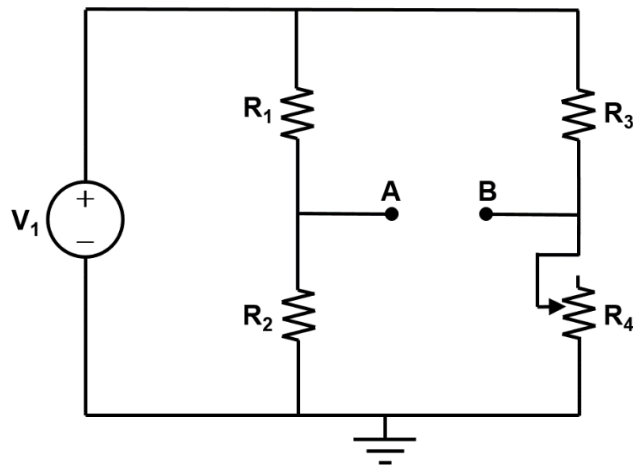
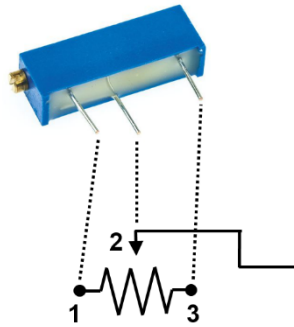

Figure 1: A Wheatstone bridge circuit.
Figure 2: Multi-turn trimmer (variable resistor) pin layout.
- Figure 1 below shows a bridge network circuit (also known as **Wheatstone bridge**). It is usually used to measure small changes in a resistance, e.g., due to temperature changes, or due to light intensity changes. The Wheatstone bridge can be set up such that $V_{AB} = 0$ when the sensor's resistance R_4 is at its **reference value**. Then, any change in R_4 , say ΔR , would result in a non-zero V_{AB} . **By measuring V_{AB} , we can calculate ΔR .**
2. Using the breadboard, construct the circuit shown in Figure 1, where V_1 is the voltage supply from the USB breakout cable, and $R_1 = R_2 = R_3 = R_4 = 500\ \Omega$. Use the multi-turn variable resistors for all these four resistances by trimming them carefully to 500 Ω with the help of the digital multimeter serving as an Ohmmeter. Figure 2 shows the pin layout of the multi-turn variable resistor. Just like the previous studio's variable resistor, you only need to connect the middle pin (#2) and one other pin (either pin #1 or pin #3). However, **do not bend the unused pin** as it damages the variable resistor.